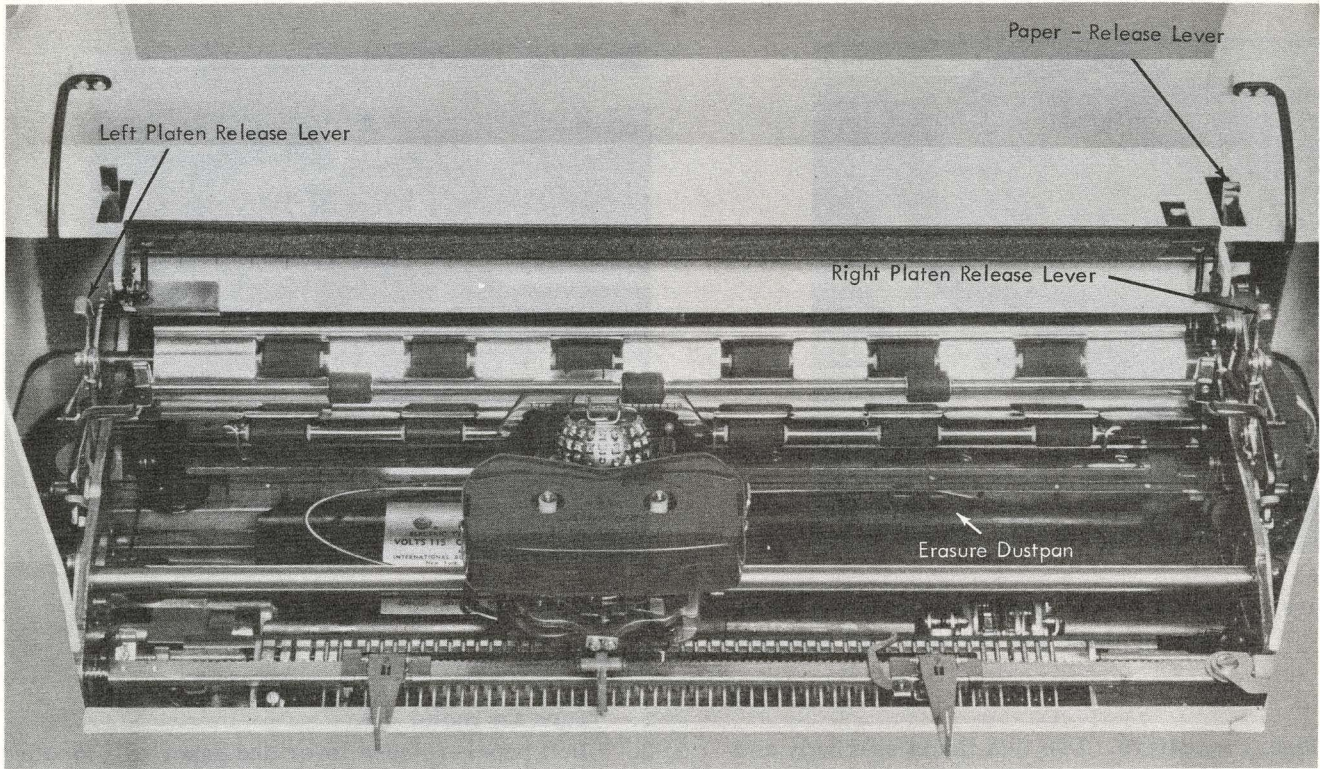

Figure 22. Platen Removed from Typewriter
2. Pull paper-release lever and paper bail forward (Figure 22).
4. Press the right and the left platen-release levers (Figure 22).
4. With the pencil-shaped dual-purpose brush, sweep lightly toward the left side of the typewriter (Figure 22).